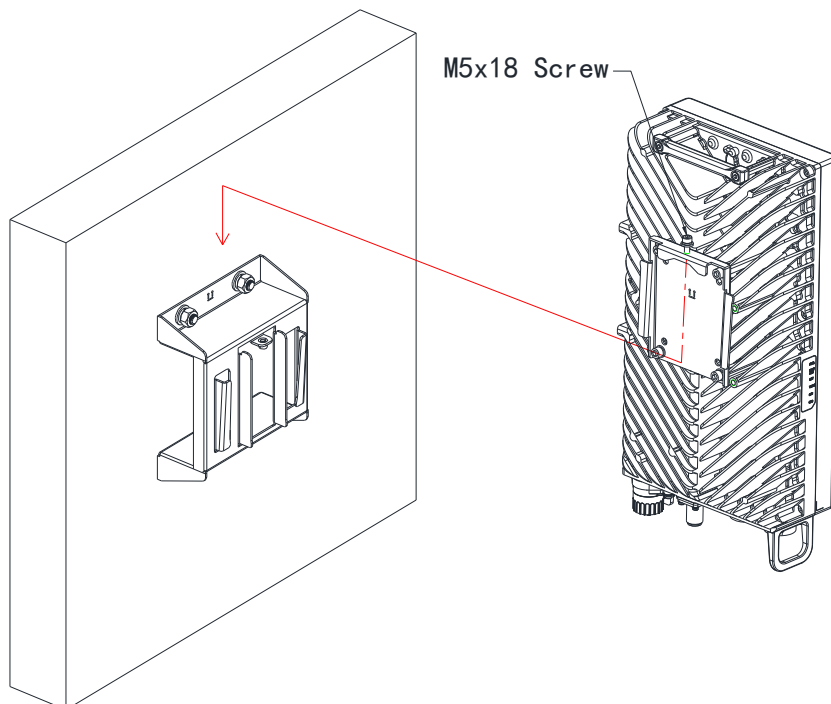
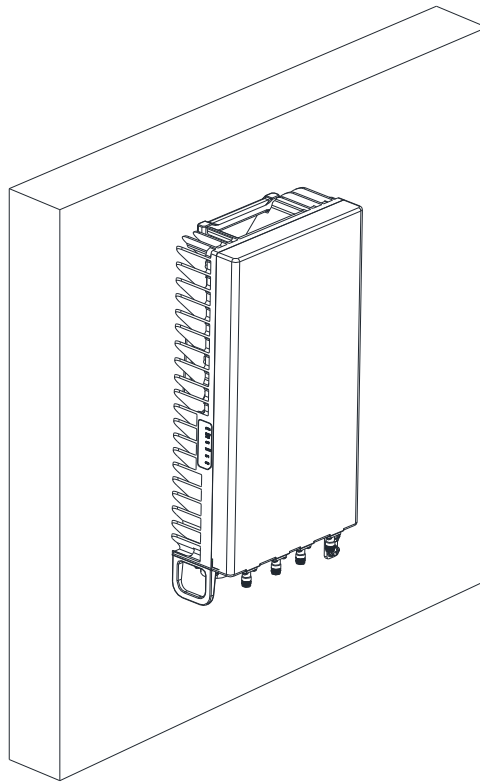

Figure 2.5.7 Wall-mounting Installation Diagram
Figure 2.5.8 Wall-mounting Installation Complete Diagram
Step 4: put the RRU prepared in step 1 and insert to the mounting bracket 2, and lock the device with M5×18 screw, as shown in Figure 2.5.7. And Figure 2.5.8 illustrated the installation complete diagram.